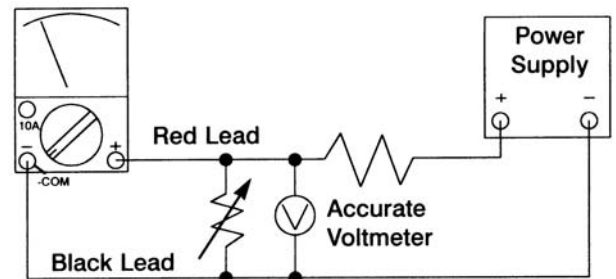

Figure 2
2. Obtain a voltage source of 0.4V as measured by an accurate voltmeter. The circuit of Figure 2 will work fine.
4. Connect the test leads as shown in Figure 2.
<p>No DC voltage reading Refer to Figure 2 for a better understanding of how the meter works.</p>	<ol style="list-style-type: none"> <li>1. Check for open fuse.</li> <li>2. Check resistors R1 - R8, R13 for correct values and good solder connections.</li> <li>3. Check that the PC board is seated properly and that the three board clamps are engaged.</li> <li>4. Check the meter movement. Unsolder the red wire from the meter movement to the PC board. Place a 75k<math>\Omega</math> resistor between the red wire and the positive side of a 1.5V battery. Connect the negative side of the battery to the black wire from the meter movement. The meter should read a little over half scale.</li> </ol>